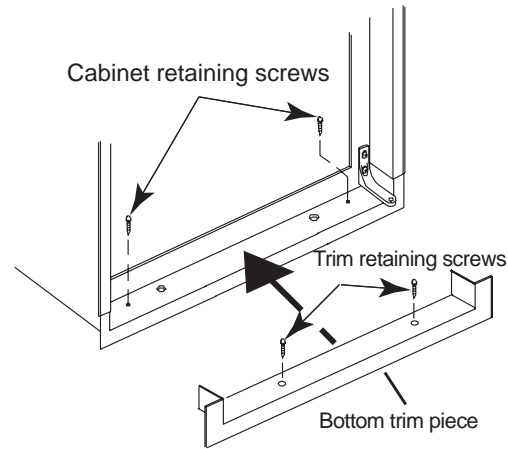

Figure 31. Bottom trim and retaining screws.
6. Remove two retaining screws from the bottom trim piece, then remove trim piece. See Figure 31, page 44.
7. Remove two retaining screws from the bottom of the cabinet. See Figure 31, page 44.
3. Attach the bottom of the cabinet to the enclosure. See Figure 31.
4. Reinstall the bottom trim piece. See Figure 31.